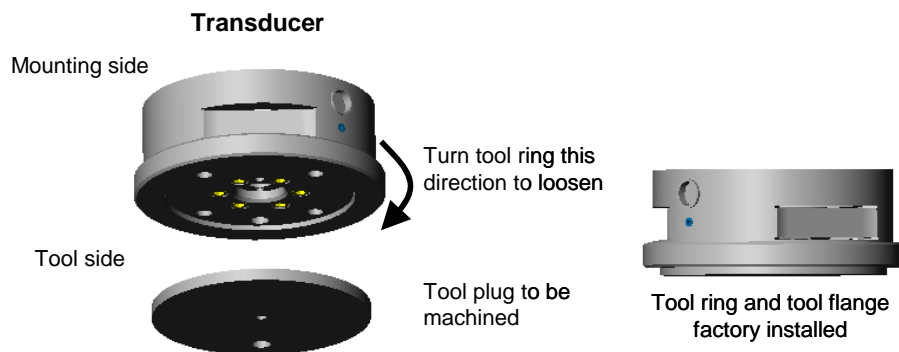

Figure 2.3—Using the tool ring-plug adapter
- Machine the tool plug for mounting to the end-effector. The dimensions of the tool plug are shown in *Figure 2.3*.